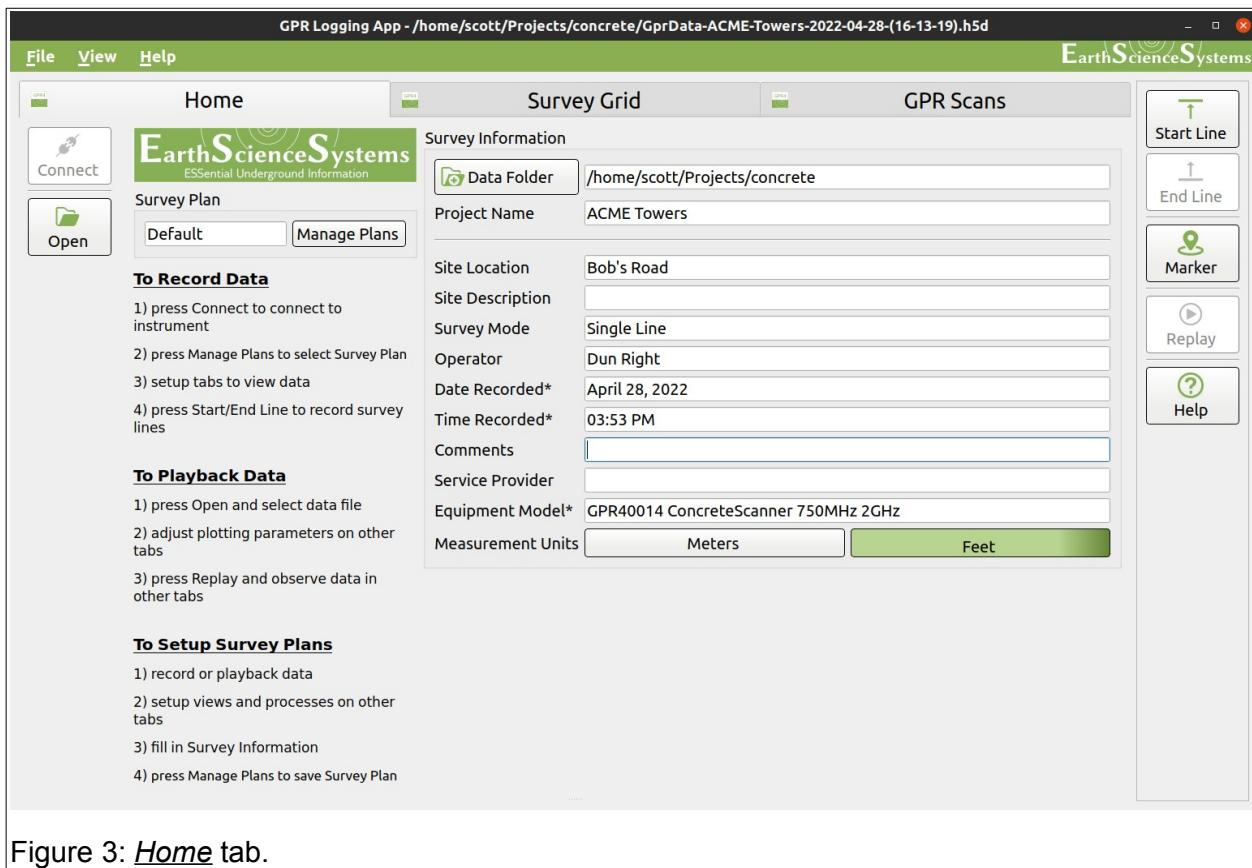

Figure 3: *Home* tab.
Surveyor Pro has many more features than Surveyor Mobile, but requires a Windows PC. After opening the Surveyor Pro acquisition program, the *Home* tab will be displayed (see Figure 3). Here the user will specify project specific information and conduct a new survey, or open previously collected data to replay.
6. Enter the jobsite information into the Home tab (see Figure 3). Then click Manage Plans to save this information if desired.
6. Enter the job site information into the *Home* tab (see Figure 3). Then click *Manage Plans* to save this information if desired. Lastly, specify a data storage directory by clicking the *Data Folder* button.